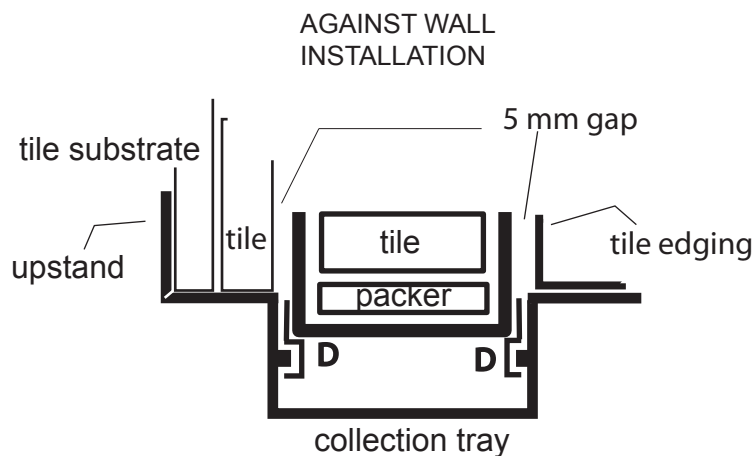

Fig 1
- 1 --- For against wall application, when positioning the collection tray allow for the combined thickness of the tile substrate plus tile (**fig 1**).